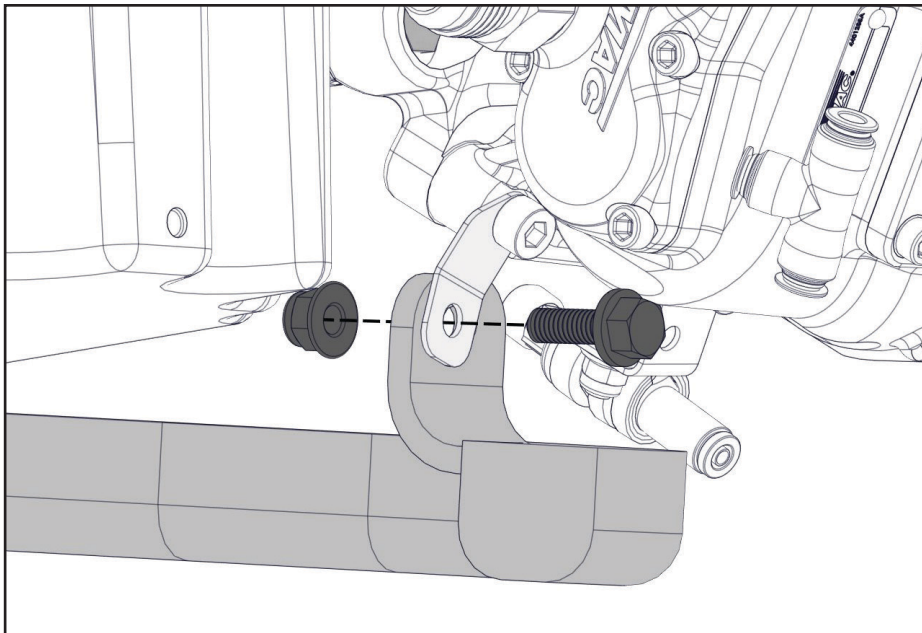

Figure 64 — Secure cable tray
- Using the supplied fasteners, secure the cable tray to the bracket (Figure 64).